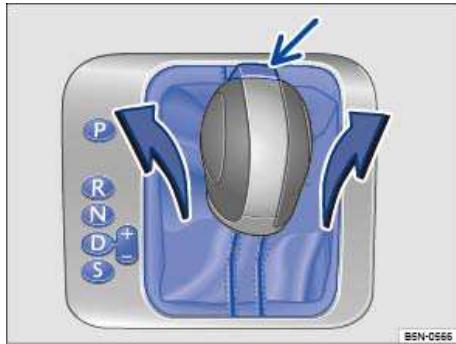

Fig. 186 Removing the selector gate cover.
- Pull upward on the cover around the selector lever sleeve **⇒ fig. 186**.
- Press the release button =>fig. 186 (arrow) in the selector lever handle and shift the selector lever to Neutral (N).